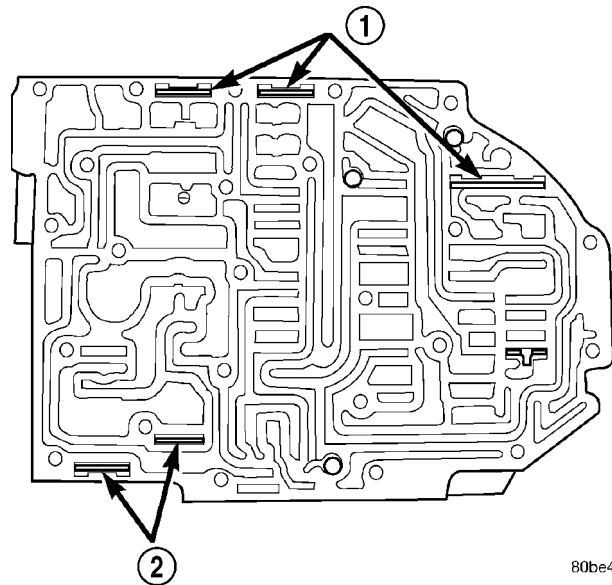

Fig. 359 Valve Retainer Location
- (4) Verify that all retainers are installed as shown in (Fig. 359). Retainers should be flush or below valve body surface.